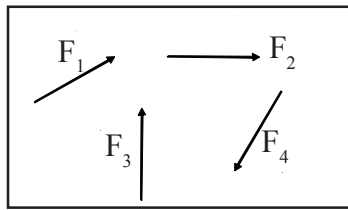

Fig.2.2
- a) Coplanar Forces: The forces, whose lines of action lie on the same plane, are called as coplanar forces (Fig.2.2)